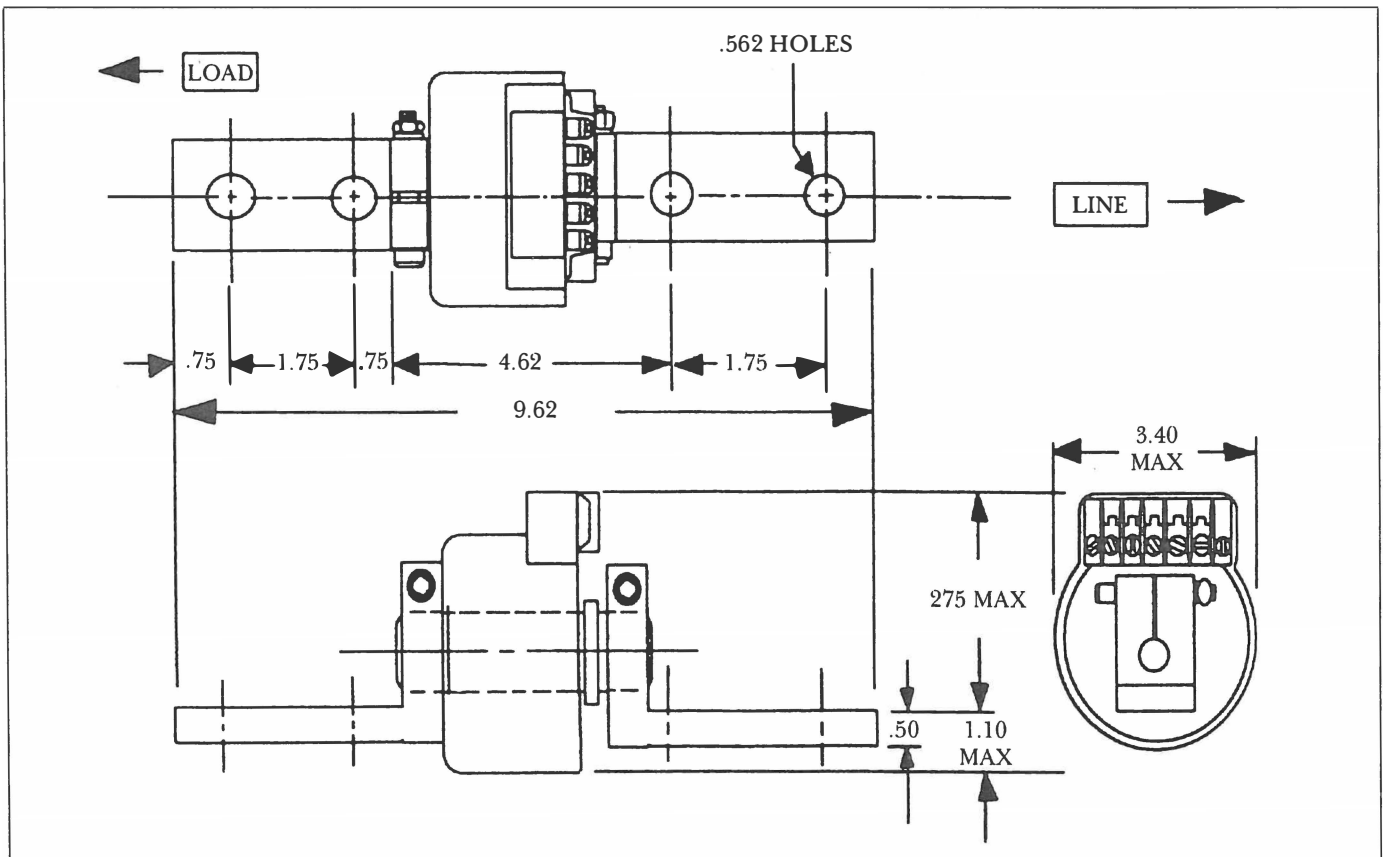

Fig. 5-3. Neutral Sensor Outline
Mount the neutral sensor (CT) in the outgoing neutral lead, normally in the equipment's bus or cable compartment. See Fig. 5-3 for the sensor's bar drilling plan. Check to insure that the neutral and phase sensors match, i. e., have the same ampere range.